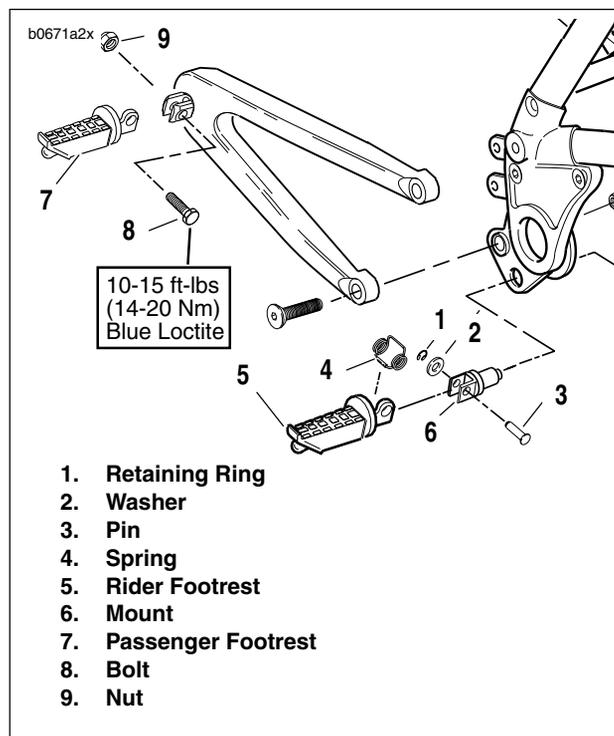

Figure 2-111. Footrests
1. See Figure 2-111. To remove rider footrest.
- a. Remove retaining ring (1) and washer (2) from pin (3).
- b. Hold hand over spring (4) and remove pin, spring and footpeg (5) from mount (6).
2. If necessary, detach passenger footrest (7) by removing bolt (8) and nut (9) from frame mount.
- a. See Figure 2-111. Apply LOCTITE THREAD-LOCKER 243 (blue) to footrest bolt (8).
- b. Secure footrest to frame mount with bolt (8) and nut (9). Tighten to 10-15 ft-lbs (14-20 Nm).